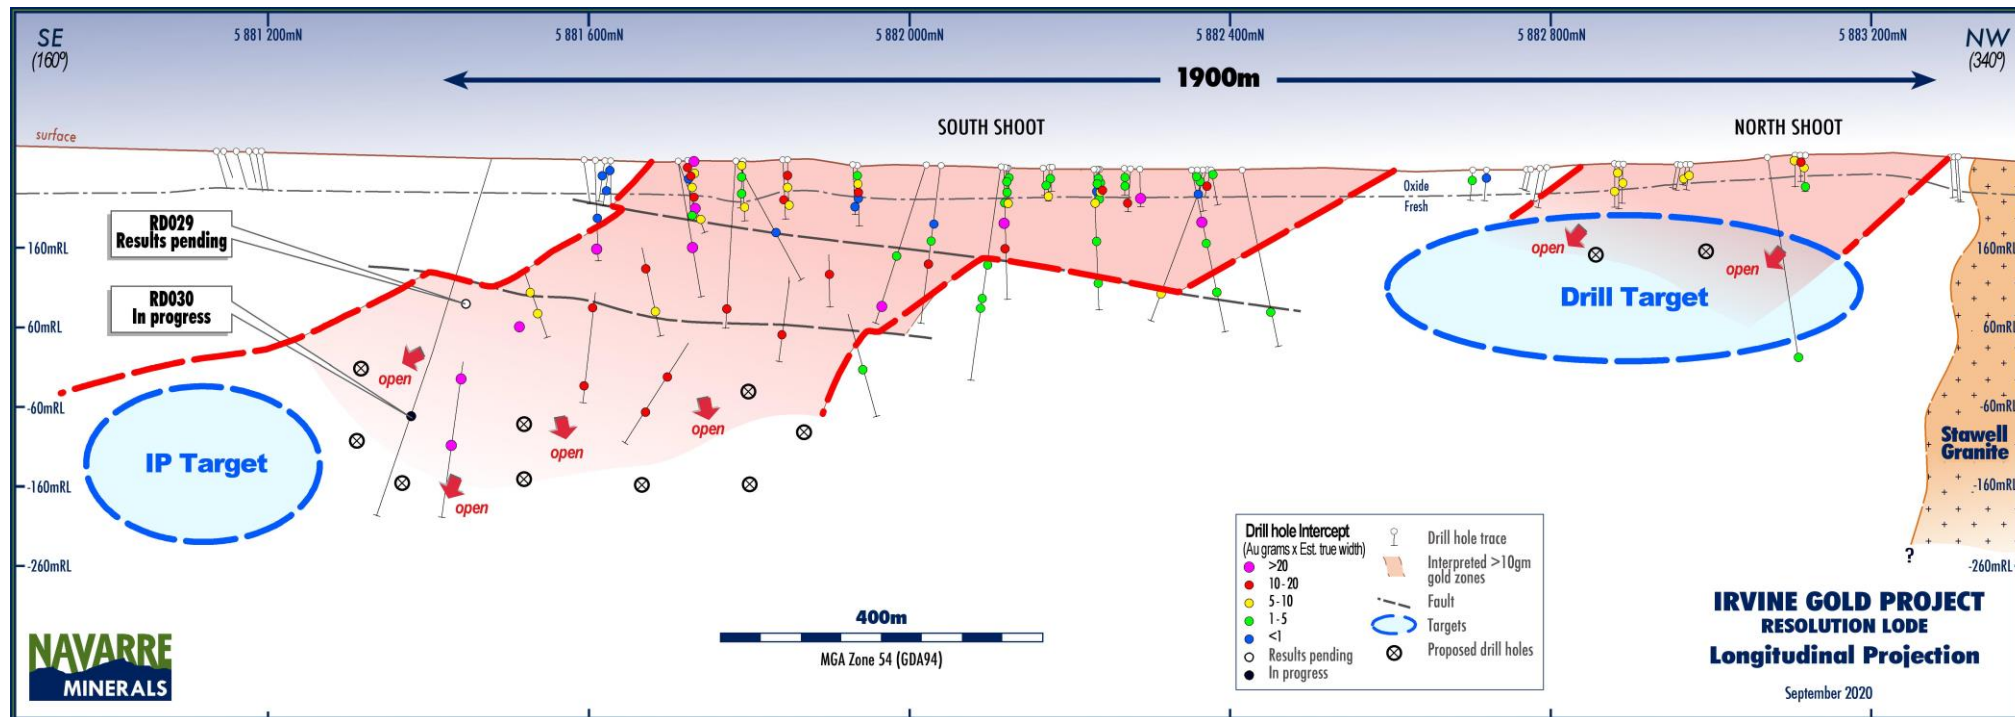

Figure 5: Longitudinal Projection of Resolution Lode showing targets and proposed drill holes.
2. scoping the dimensions of the mineralisation using a nominal 80m (N-S) by 80m (vertical) step-out drill pattern guided by a geophysical (GAIP and IP chargeability) anomaly (refer Figure 5).
The higher-grade gold mineralisation has been interpreted to occur within two lode channels or shoots (referred to as the North and South Shoots) that plunge gently towards the south and remain open down-plunge (see Figure 5). The South Shoot, with more drill information, has approximate dimensions of up to 350m in height, 600m down-plunge (open to the south) and between 1.5 – 6m in width. The North Shoot has been defined by shallow air-core drilling and has a lower tenor of grade when compared to the South Shoot. Deeper diamond core drilling is planned for the North Shoot later this year. The gold shoot geometry appears analogous to that of the Magdala gold deposit (Figure 7).